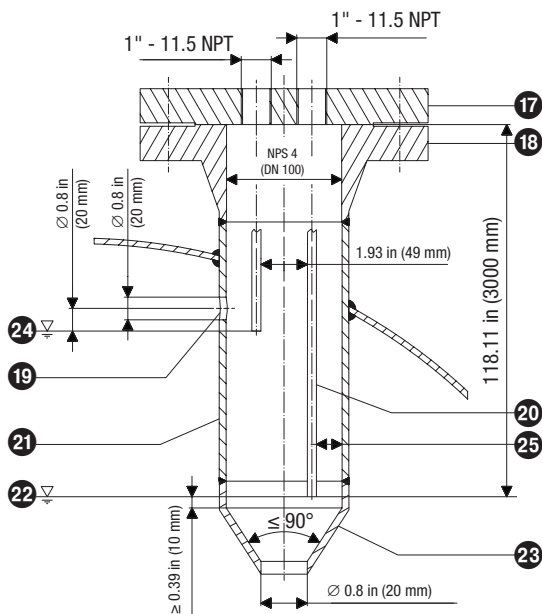

Fig. 18 Protective tube (provided on site) if electrode is used as an internal water level limiter combined with level control or high-level alarm
- One NRG 1...-51 level electrode can be installed in a single protective tube or level pot (inside diameter 3.94 in [100 mm]) together with a GESTRA level electrode, a level switch or transmitter for water level control and limitation. **Fig. 18.** If a NRG 1...-50 level electrode is used (for water level limitation) and installed inside the vessel, it must be at a minimum distance of 1.57 in (40 mm) from the upper pressure relief hole.